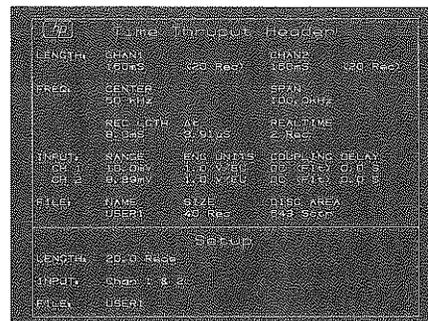

Figure 7-2
- 2. Set Up Measurement** As described in Chapter 2, set up the signal source (**SOURCE** key) and measurement averaging (**AVG** key); connect the device under test as shown in Figure 7-2; set up the input coupling (**INPUT COUPLE** key).
- 7. View Header** When the throughput is completed the **HP-IB** and **STATUS** LEDs will indicate no disc or measurement activity. Select the **THRUPT HEADER** softkey to display the disc file header for the session. The header for this example is shown in Figure 7-2.